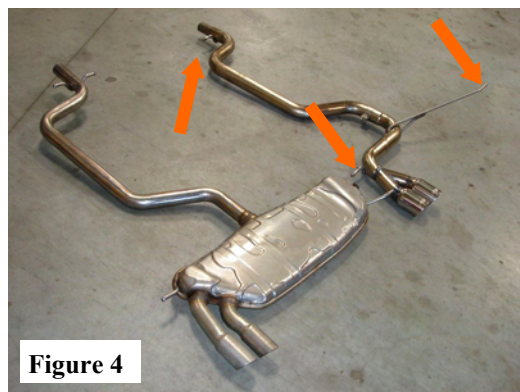

Figure 4
1. Familiarize yourself and position old and new parts as shown. This will aide in the installation. Note hangar locations. (See Fig.4)